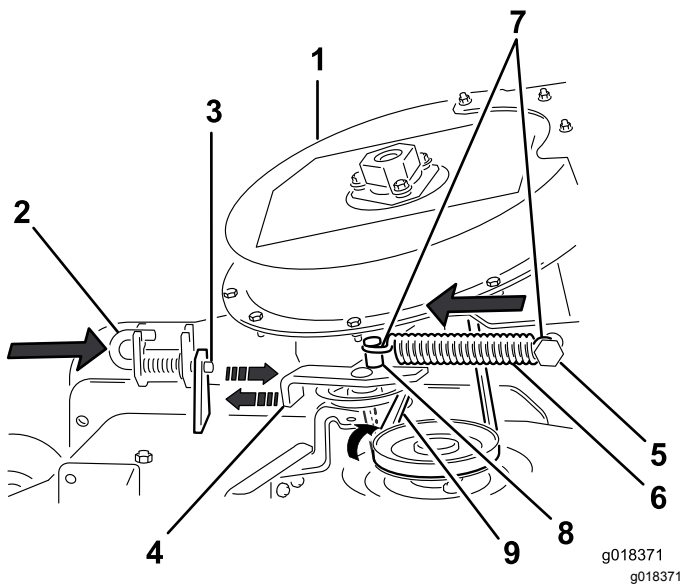

**Figure 44**
- Arrange the blower belt around the drive pulley (Figure 44).